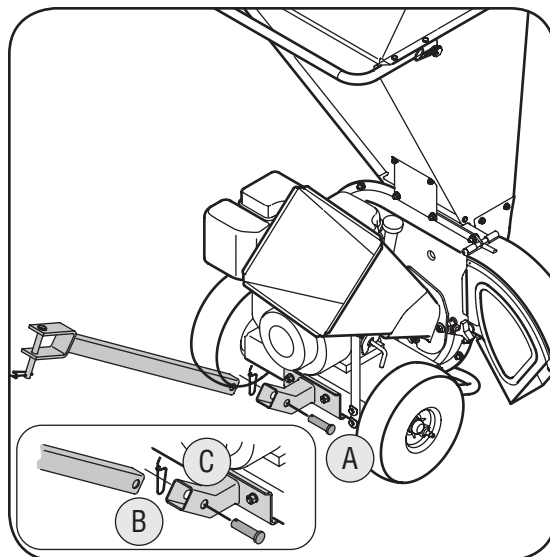

Figure 3-3
- a. Remove the spring pin and clevis pin from the end of the tongue. See Figure 3-3.
- c. Reinsert the clevis pin through aligning holes in both the tongue and the base. Fasten with the spring pin to secure. See Figure 3-3.